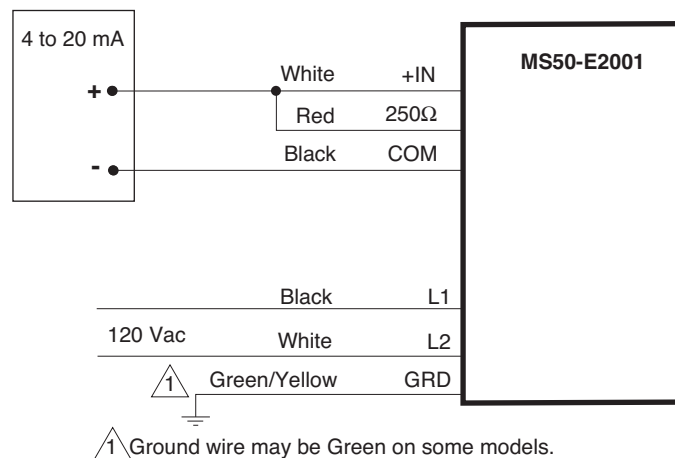

Figure-2 Typical MS50-E2001 4 to 20 mA Wiring Diagram.
**Control Signal:** 4 to 20 mAdc or 1 to 5 Vdc. See Figure-2 through Figure-2.